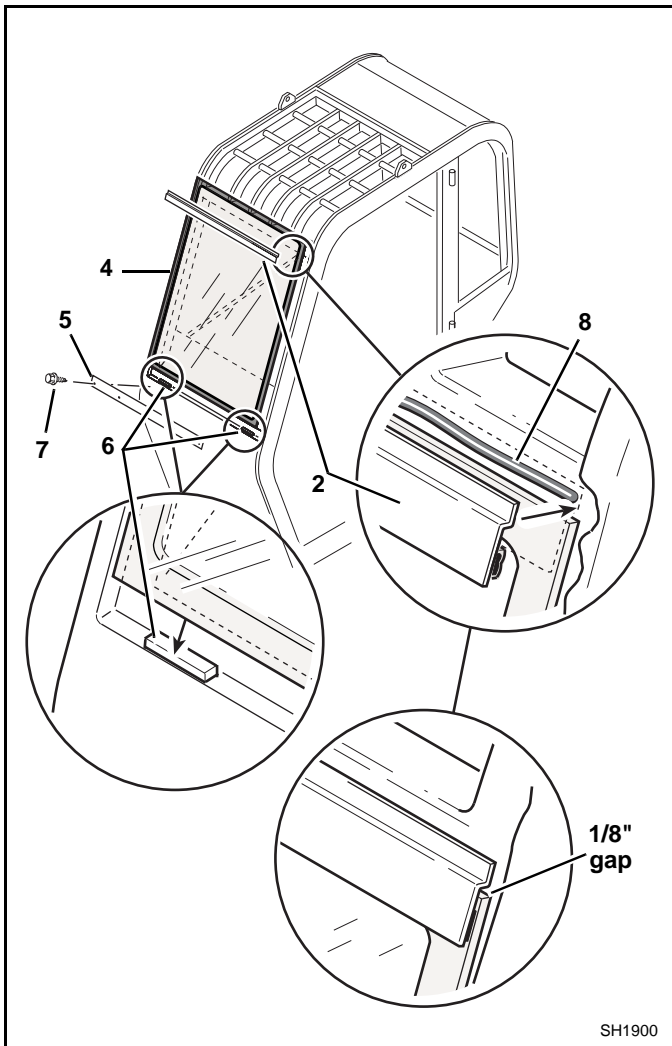

Figure 3
1. Attach two of the setting blocks (adhesive backed) to the bottom edge of the cab opening (Figure 3, 6). These blocks will protect the bottom edge of the glass.
2. Place the windshield glass (Figure 3, 4) in the front cab opening. Fasten the windshield glass with the windshield plate (5) and the five self tapping screws (7).
3. Apply a 3/16" (5 mm) diameter bead of urethane sealer (Figure 3, 8) to the cab where the windshield clip (Figure 3, 2) will be attached. (Applying too much urethane sealer may ooze out onto the glass and cause problems in the future if removing the windshield is desired.)
4. When positioning the windshield clip (Figure 3, 2) on the top of the windshield, leave a 1/8" (3 mm) gap between the clip and the glass. As shown in Figure 3.